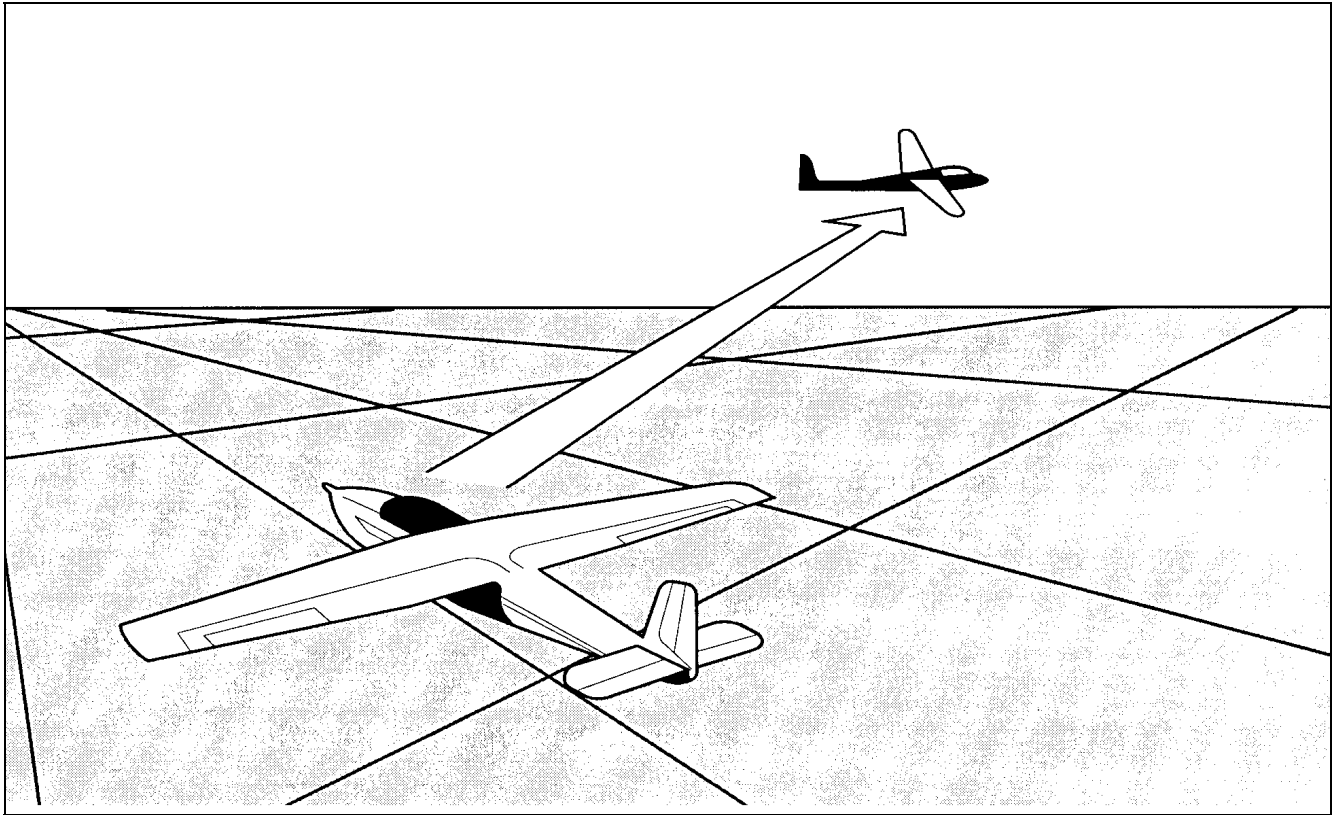

Figure 6-1-1 Clock-Elevation System (Right – 2 o'clock high)
20. Your instructor will explain the clock-elevation system of pointing out other aircraft. An example of an aircraft at "Right – 2 o'clock high" is shown in Figure 6-1-1.